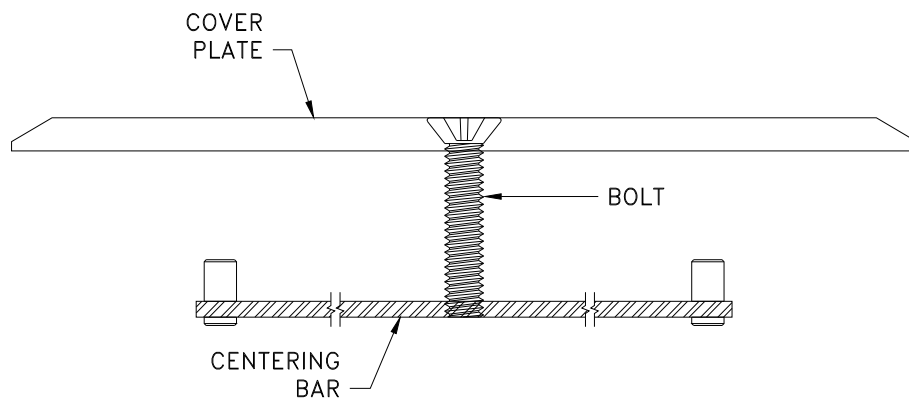
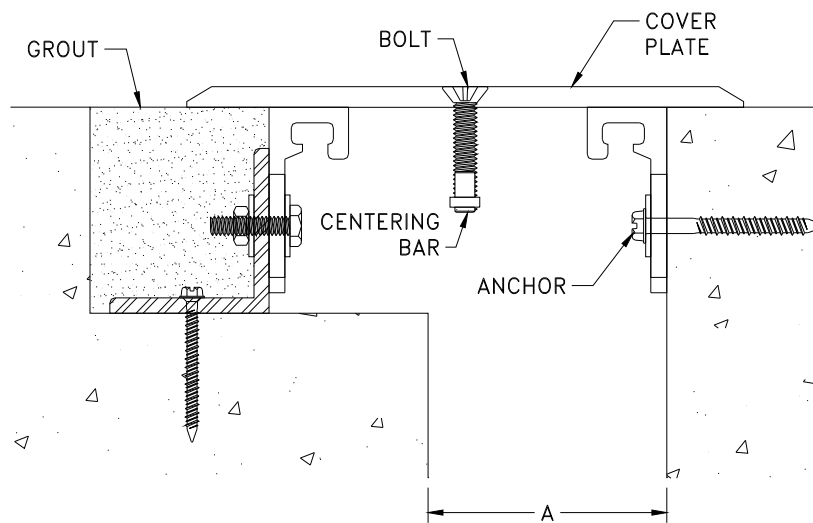

Figure 14
Figure 15
- STEP 25.** Attach a centering bar to the end of each centering bar bolt in the cover plate (see Figure 14). Position the centering bars so that they are parallel to the joint and cover plate and so that the centering bar pins will clear the base member channels when the cover plate is put into position for installation (see Figure 15).